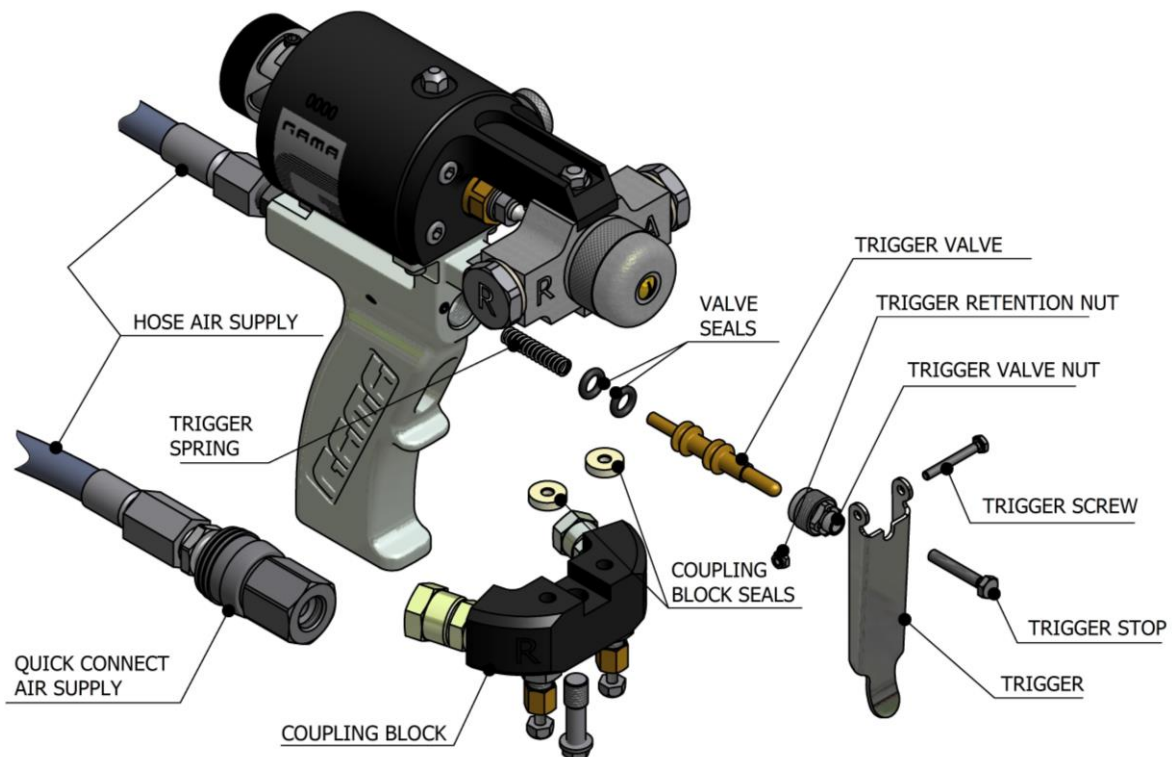

Figure. 22
4. Unscrew the trigger stop bolt (see **Figure. 22**).
5. Remove the retention nut, the screw and the trigger (see **Figure. 22**).
6. Unscrew the trigger valve nut (see **Figure. 22**).
7. Remove the valve. The valve has a spring inside it, take care not to lose it (see **Figure. 22**).